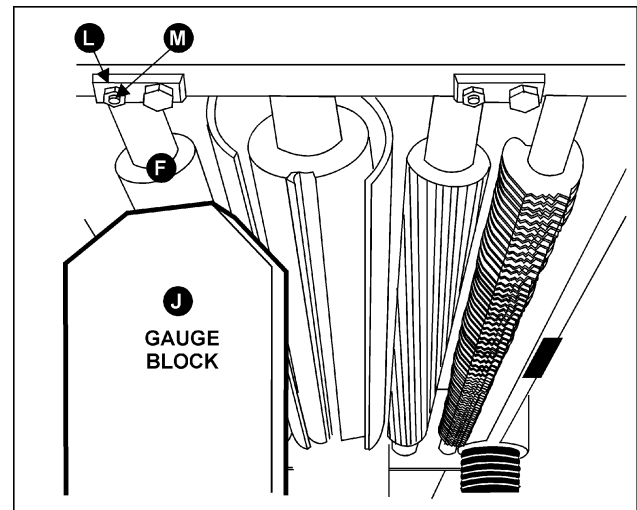

Fig. 26
5. Remove the feeler gauge and move the gauge block (J, Fig. 26) under one end of the outfeed roller (F, Fig. 26). The bottom of the outfeed roller should just touch the top of the gauge block. If an adjustment to the outfeed roller is necessary, loosen the lock nut (L, Fig. 26) and turn screw (M, Fig. 26) until the outfeed roller just touches the gauge block. Then tighten lock nut (L, Fig. 26).